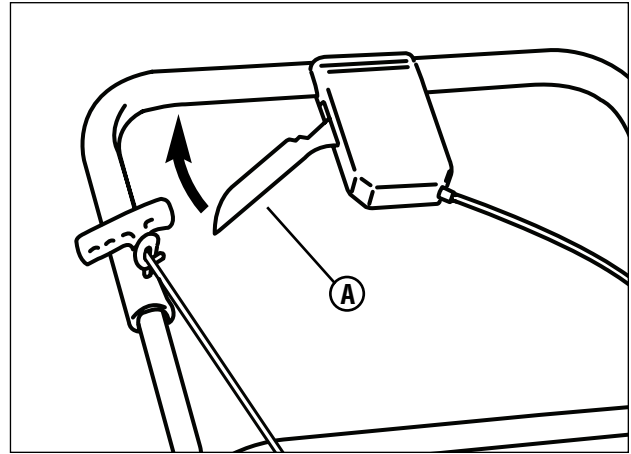

Figure 12: Operating the front wheel drive system
2. **Model SP2265FC:** Pull the drive lever (**A**, **Figure 12**) completely back. The drive system is now engaged.